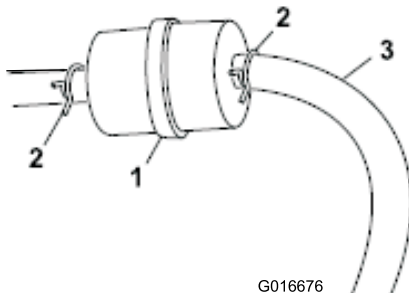

Figure 24
2. Squeeze the ends of the hose clamps together and slide away from the fuel filter (Figure 24).
3. Place a drain pan under the fuel lines to catch any leaks, then remove the filter from the fuel lines (Figure 24).